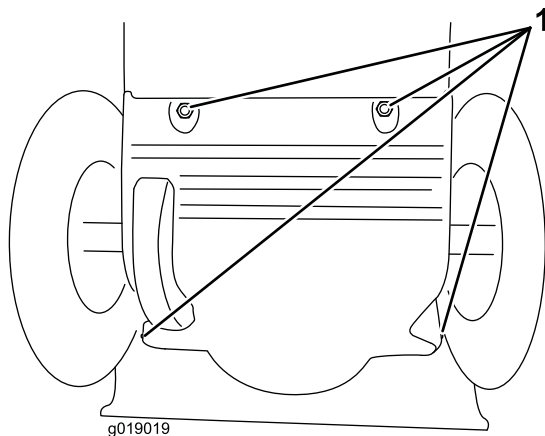

**Figure 44**
Lightly lubricate the hex shaft yearly with automotive engine oil (Figure 44).
**Important:** Do not get oil on the rubber wheel or the steel friction pulley because the traction drive will slip (Figure 44).